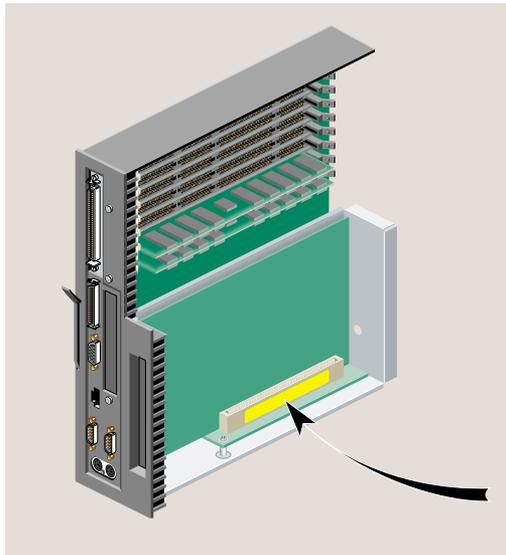

Figure 1-22 Locating the Serial Number Inside the Workstation
- Inside the workstation, it's on the connector of the PCI tray, which is attached to the system module (Figure 1-22). (To remove the system module, see "Removing the System Module.")